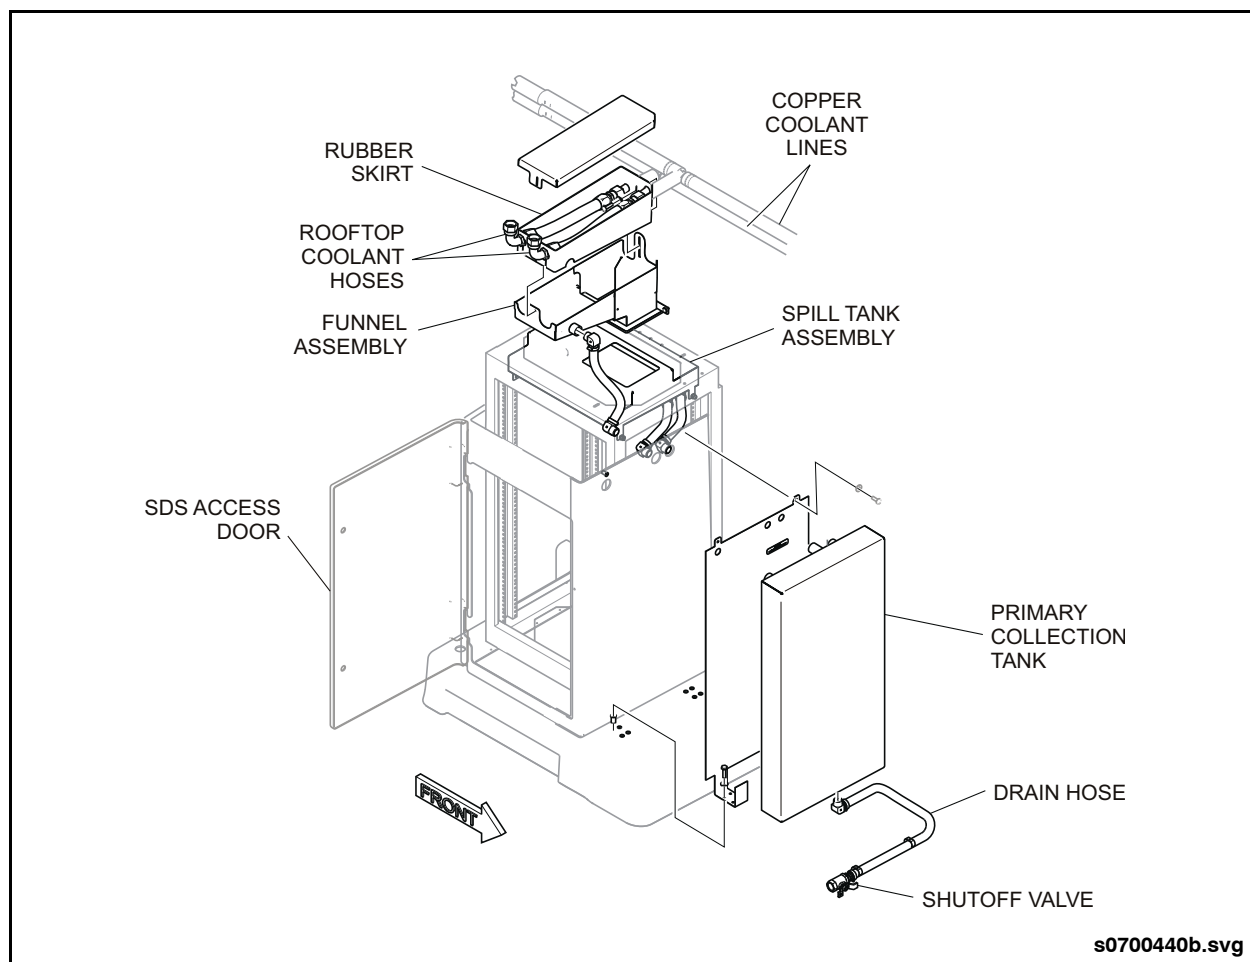

Fig. 3: HVAC Coolant Hoses
4. Locate the drain hose and shutoff valve at the lower front section of the SDS enclosure. See "Fig. 3: HVAC Coolant Hoses" on page 5.